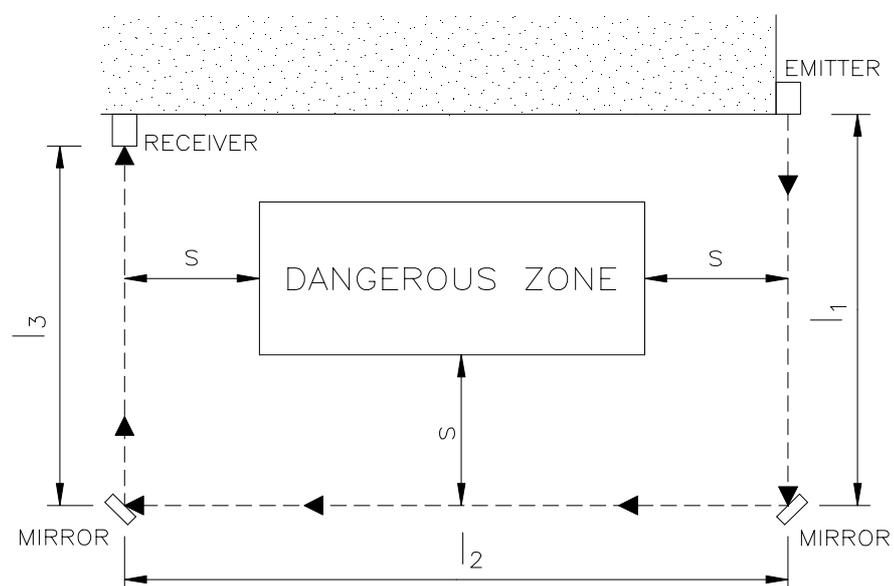

Fig. 14
- Mirrors should be installed in such a way that the minimum calculated safety distance S is achieved on each side of the perimeter (see figure 14).